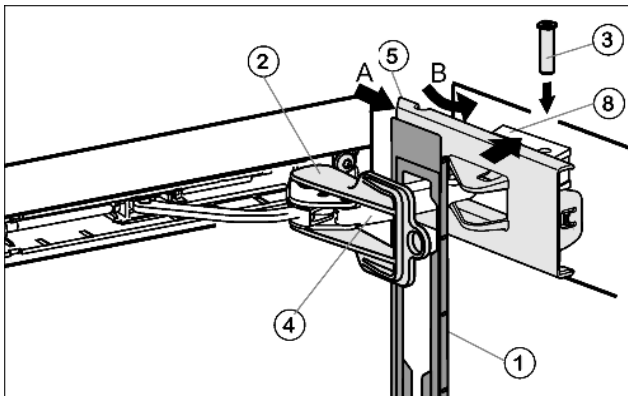

Fig. 24
- ▶ Attach the faceplate *Fig. 24 (1)* to the soft stop bracket *Fig. 24 (4)* so that the catches face inwards and the front faces the appliance.
- ▶ Slide on the cover *Fig. 24 (5)* from the outside (A) and swivel it over the bearing part *Fig. 24 (8)* (B).
- ▶ Attach the cover *Fig. 24 (5)* and engage it as far as the first detent.
- ▶ Draw the soft stop bracket *Fig. 24 (4)* towards the bearing part *Fig. 24 (8)* and insert the pin *Fig. 24 (4)* from above so that the square sits in the recess.
- ▶ Now completely snap the cover *Fig. 24 (5)* onto the bearing part *Fig. 24 (8)*.
- ▶ Twist the safety lock *Fig. 24 (2)* for removal.
- ▶ Snap the faceplate *Fig. 24 (1)* onto the door.